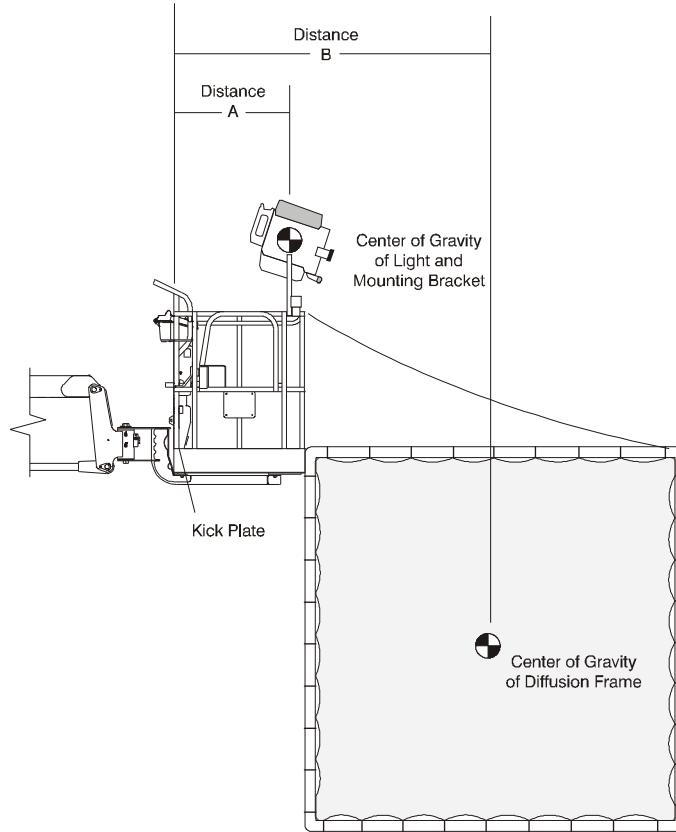

Figure 2-1. Figuring Capacity Reduction
2. Subtract the load applied to the platform by the attachment of additional movie production equipment (as shown in the following illustration) by using Table 2-1, Platform Capacity Reduction Chart - 400S, 400S HC3, 450A, 600A, 600S, 600S HC3, 800A, 800S, 800S HC3 or Table 2-3, Platform Capacity Reduction Chart - 460SJ, 460SJ HC3, 600AJ, 600AJ HC3, 660SJ, 660SJ HC3, 670SJ Self Leveling, 800AJ, 800AJ HC3, H800AJ, 860SJ, 860SJ HC3, 1200SJP, 1250AJP*, 1350SJP, 1500AJP, 1500SJ, 1850SJ as applicable. (Refer to Figure 2-1., Figuring Capacity Reduction for attachment details.
EXAMPLE: This example will use Table 2-1 and Figure 2-1. Assume the weight of the lighting equipment, cables, and mounting hardware is 83 pounds. The distance from the kickplate to the CG (Center of Gravity) of the equipment (Distance A or Distance B) is 33 inches. The weight of the equipment must be rounded up to the next highest figure in the left column, which is 100 pounds and the distance to the kickplate must be rounded up to the next highest figure at the top of the chart which is 36 inches. Using these figures on the chart, we see that the Rated Load must be reduced by 161 pounds. On a platform with 500 pounds capacity, the new rated capacity would be 500 pounds - 161 pounds = 339 pounds.